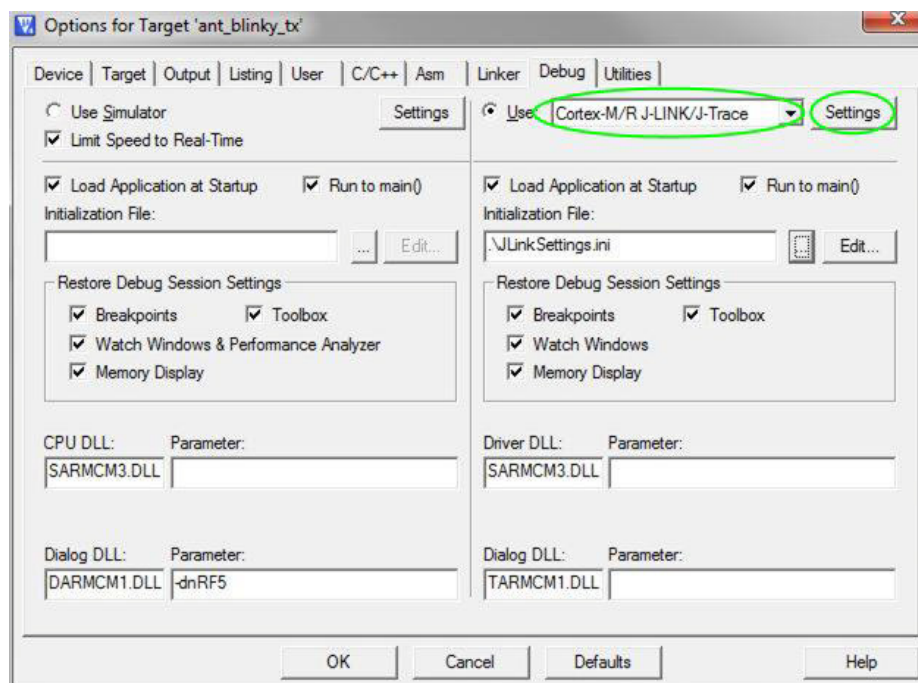

Figure 41 Selecting JLink debugger in Keil
3. Under the **Debug** tab in the Use list, select **J-LINK / J-Trace Cortex** option as shown in *Figure 41*.
4. Click the **Settings** button shown in *Figure 41*. Both the SEGGER Control Panel and the Keil Target Driver Setup will open.